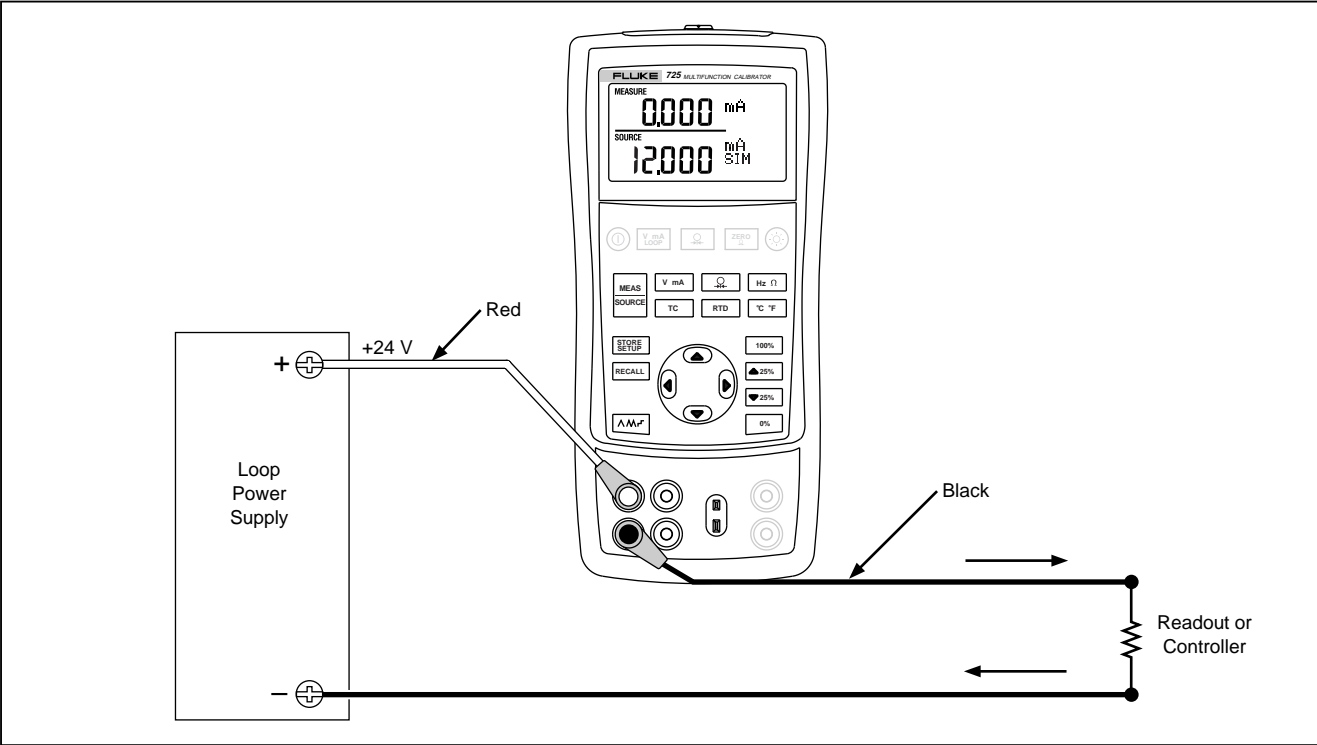

Figure 13. Connections for Simulating a 4- to 20- mA Transmitter
1. Connect the 24 V loop power source as shown in Figure 13.